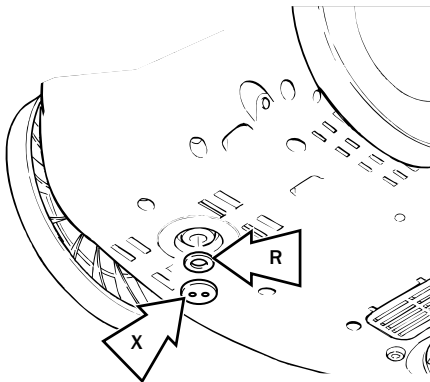

Fig. 18
- Place a container under the machine, then remove plug X by turning it counter-clockwise using round nose pliers or the spanner provided (fig. 18).